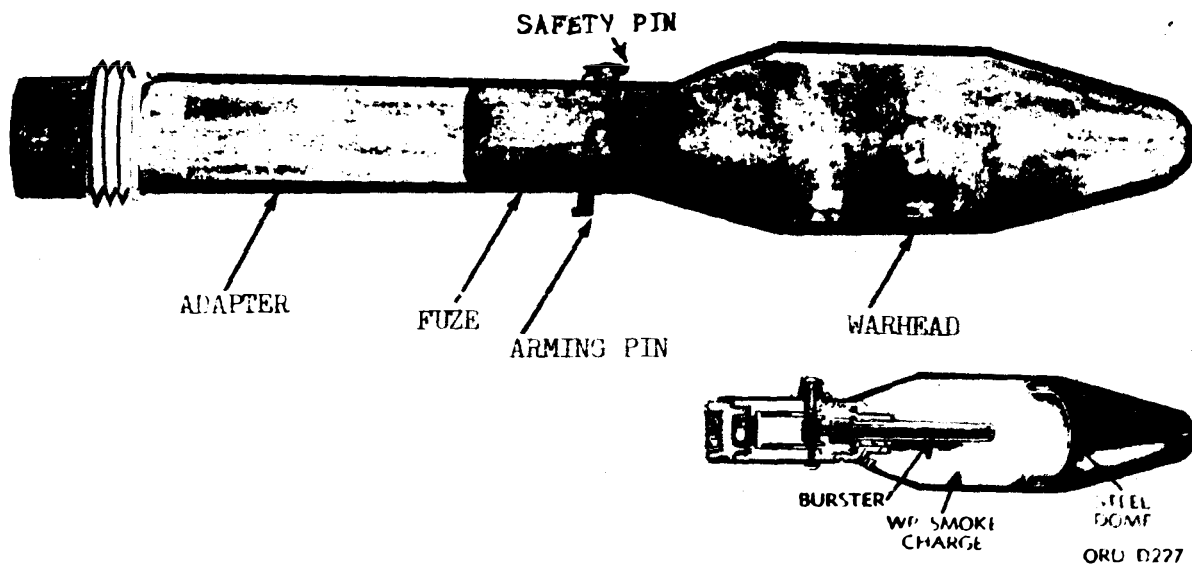

Figure 5-16. 3.5 Inch Smoke WP Warhead and Adapter
b. M404A1 Fuze. This fuze is a base-detonating type. It consists of a body which contains the functioning parts, a detonator and booster pellet. It is externally threaded at the forward end and internally threaded at the aft end, and it serves as a coupling between the 3.5" smoke warhead and the adapter. It is armed by setback when fired and functions with non-delay action on impact. The fuze is rapid in action and is sensitive to low graze angles. It has been modified by cutting a 1/16-inch slot through the fuze wall which allows a longer arming pin to protrude through the fuze. The arming pin is secured and made safe by a cotter pin inserted through the safety pin hole (reference figure 5-16).